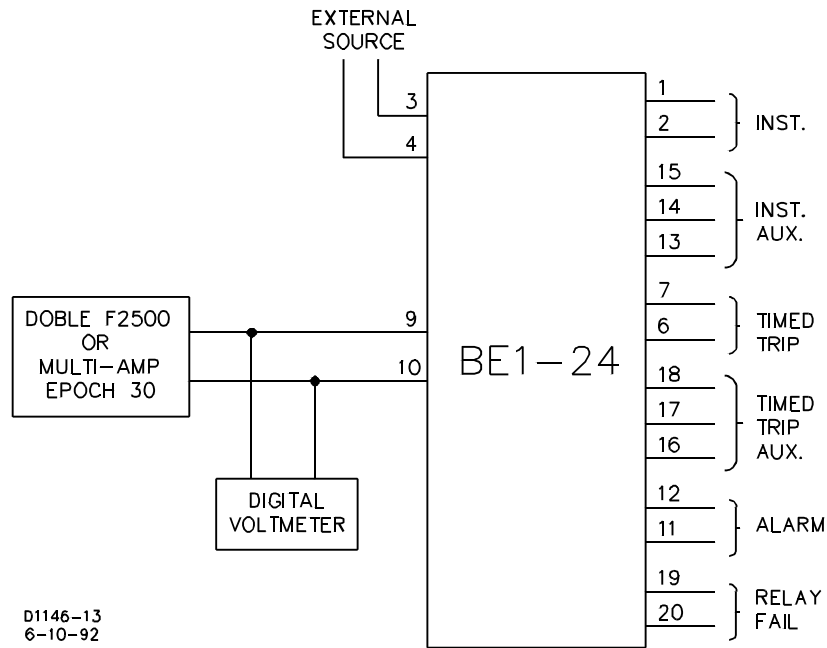

Figure 5-1. Test Setup Diagram
Step 1. Connect the unit as shown in Figure 5-1.
- Step 1. Connect the unit as shown in Figure 5-1.